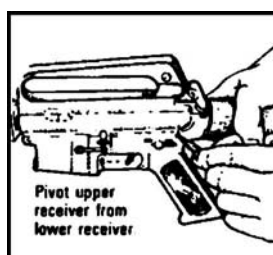

Figure 6. Pushing the takedown pin.
- d. Push the takedown pin as far as it will go and pivot the upper receiver from the lower receiver (Figure 6).